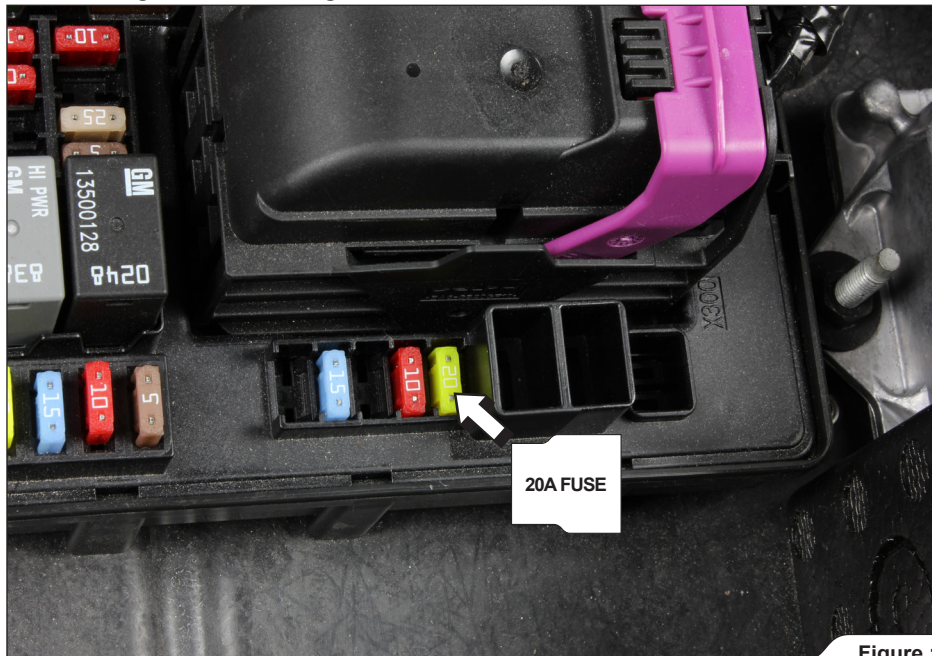

Figure 1
1. Carefully remove the trunk floor mat and trunk trim panels to access the power distribution box. Remove the marked 20A fuse (Figure 1).